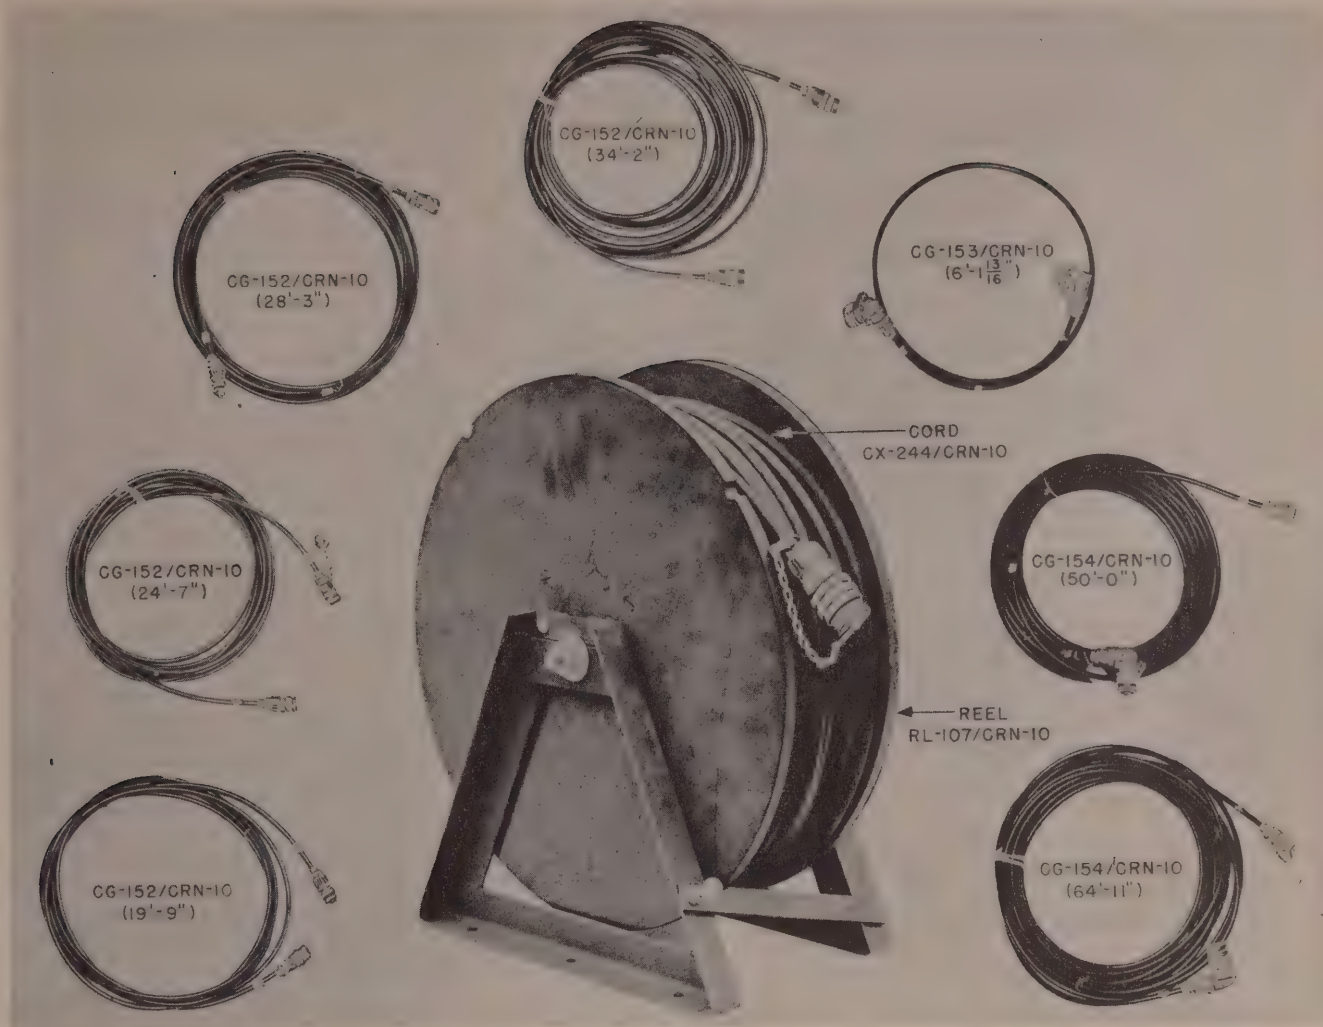

Figure 1-22. Radio Set AN/CRN-10—Interconnecting Cords
p. REEL ASSEMBLY RL-107/CRN-10.—The reel assembly is used for storing cord CX-244/CRN-10 during transit. This reel is made of wood and is mounted on a steel framework attached to the bedplate of the trailer on the left side of the modulator cabinet. (See figure 1-22.)
(1) Mounting MT-226/CRN-10 is used for mounting course monitor TS-180/CRN-10 and mounting MT-229/CRN-10 is used for mounting course detector TS-179/CRN-10.
(2) The mountings are equipped with Lord type shock mounts and are provided for protection of the components during surface and air transport when mounted on trailer V-6/CRN-10.
(1) There are two obstacle lights which are supplied with the necessary cords to connect them to the transmitter junction box. The lights are mounted on a supporting framework attached to the trailer.
(2) Two black combat hoods, which are to be installed in place of the red plastic lenses, are supplied for use during blackouts.
(3) The obstacle light assembly is strapped on the top of the antenna stowage containers during transit.
t. INTERCONNECTING CORDS.—The cords listed in table 1-4 are used for interconnecting the major assemblies of radio set AN/CRN-10. (See figure 1-22.)